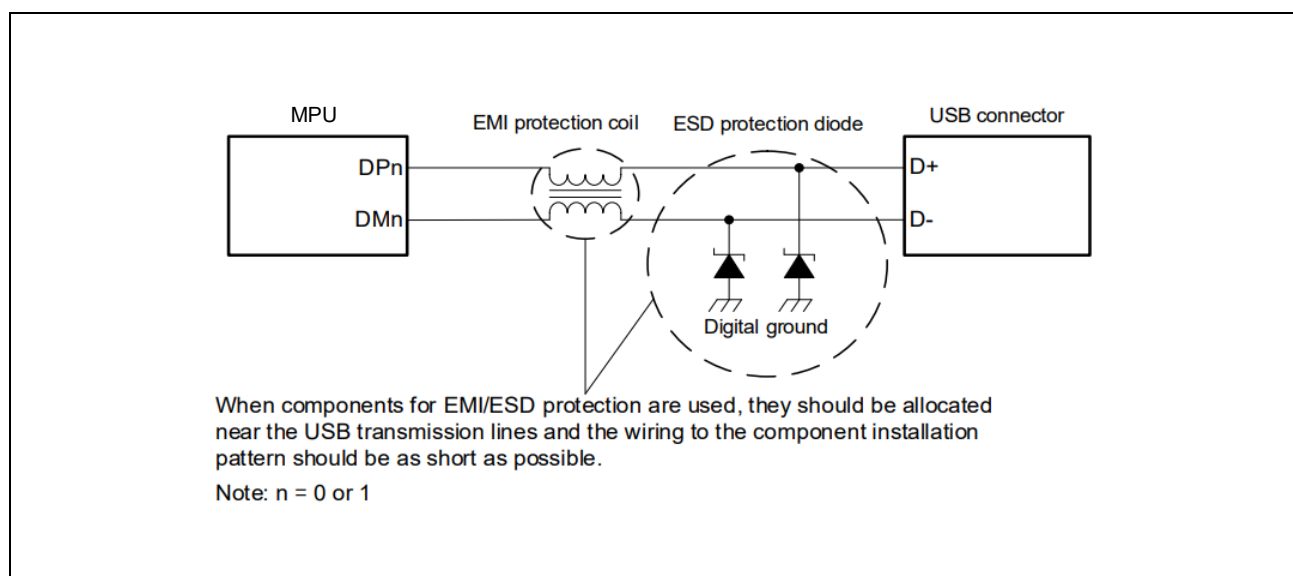

Figure B.1 Connection Example of Components for EMI/ESD Protection
**Figure B.1** shows an example connection when the components for EMI/ESD protection are used.